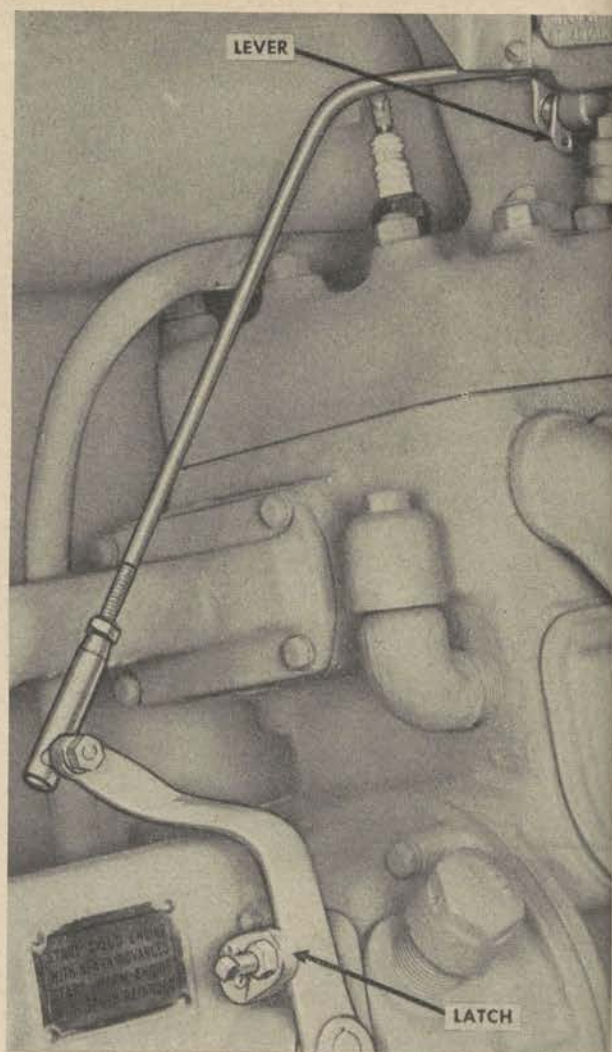

Figure 218. Low idle speed adjustment.
3. *Low idle speed adjustment.* The low idle speed is controlled by the adjusting screw in the lever (fig. 218) on the carburetor. Set the adjusting screw for a low idle speed of approximately 800 rpm. Then adjust the set screw in the latch so that the low idle speed adjusting screw will be held against the stop. The governor controls the speed of the engine when the latch is thrown back away from the governor lever.